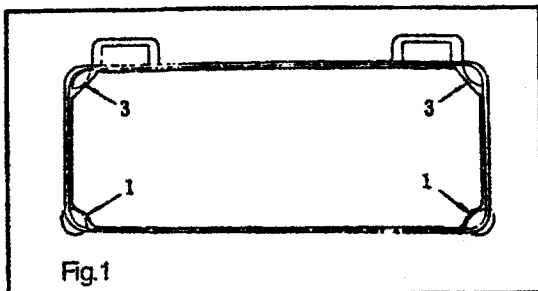

Fig.1
- 2) Two rubber seats ① for supporting the head portion on the operator side A are fixed on the extended portion of the table by hitting the nail ②, and the other two rubber cushion seats ③ on the hinge side B are fixed by using a rubber-based adhesive. Then, oil pan ④ is placed. (Fig.1,2)